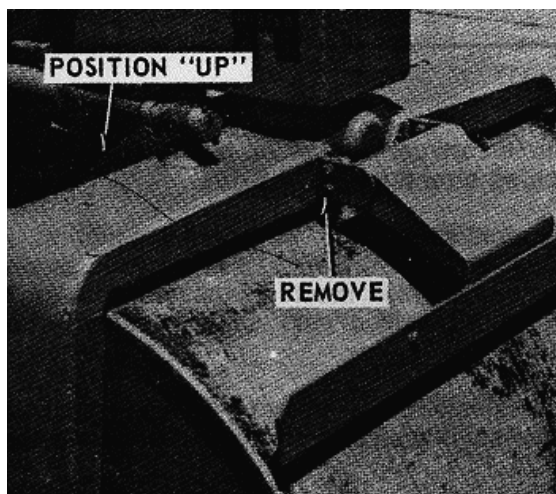

FIGURE 9-97.
a. Remove front scraper assembly. Then position guide roll rear scraper in the "up" position (see figure 9-97).